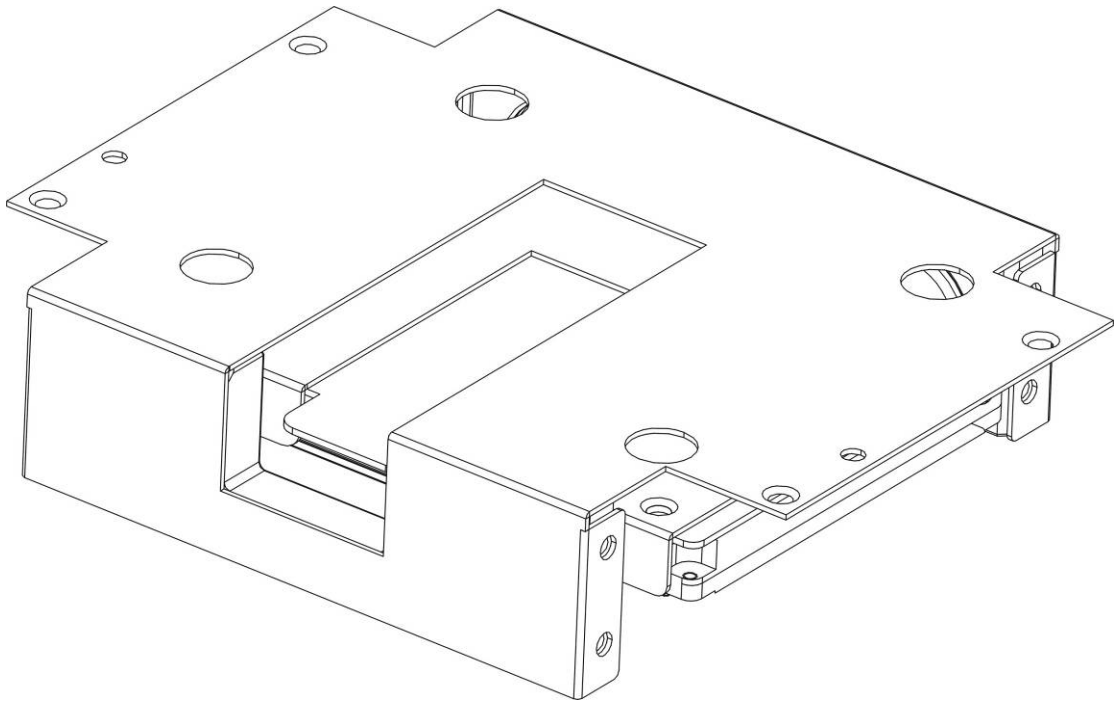

Figure 3-4
4) Now the bracket is shown as below after you fastened the HDD bolts. See Figure 3-4.